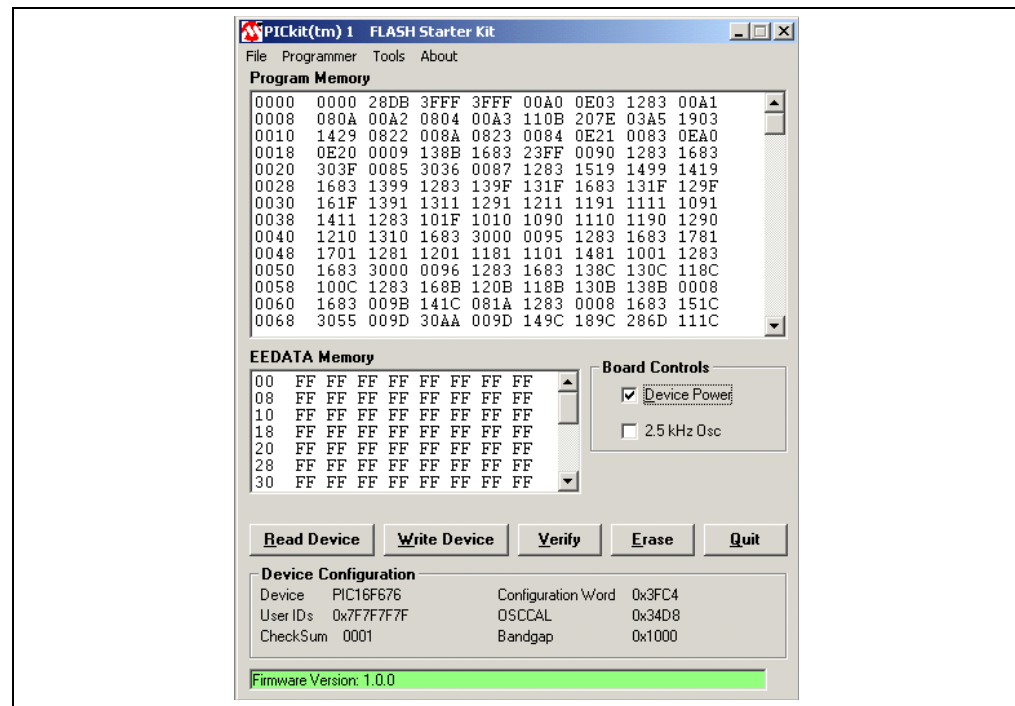

FIGURE 2-4: PICKit™ 1 Flash Starter Kit GUI Window on the PC.
5. When the PICKit™ 1 Flash Starter Kit is started, the main window will be displayed on the PC as indicated in Figure 2-4.
6. Toggle device power to off by unchecking the **Device Power** box under **Board Controls** in the PICKit™ 1 Flash Starter Kit window (Figure 2-4). The **BUSY** LED on the PICKit™ 1 Flash Starter Kit board will turn off when the device power is turned off.